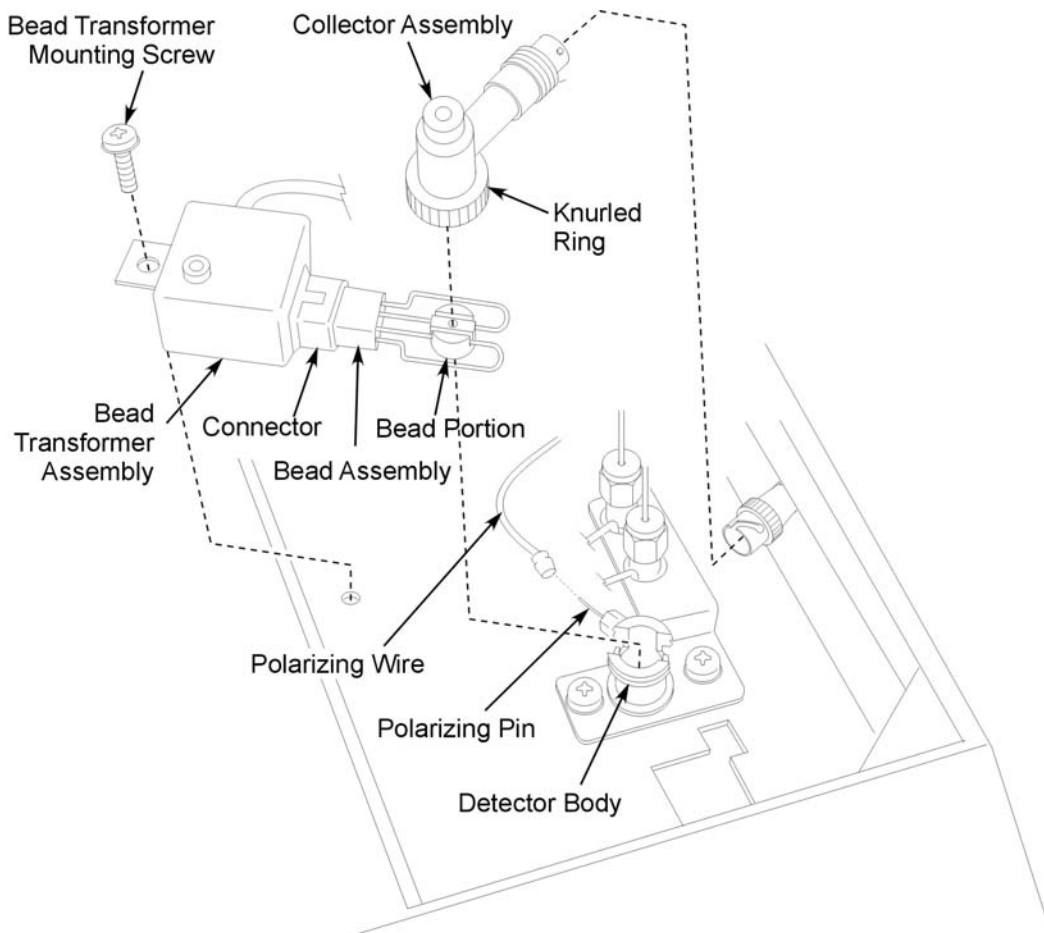

Figure 32. Exploded view of the Nitrogen Phosphorus Detector.
If you purchased your Clarus 500 GC equipped with a Nitrogen Phosphorus Detector (NPD), the NPD bead assembly is packaged separately and shipped inside the Clarus 500 GC oven. To install the NPD bead assembly, use the following procedure and refer to Figure 32.
6. Carefully insert the bead portion of the bead assembly in the detector body as shown in Figure 32.